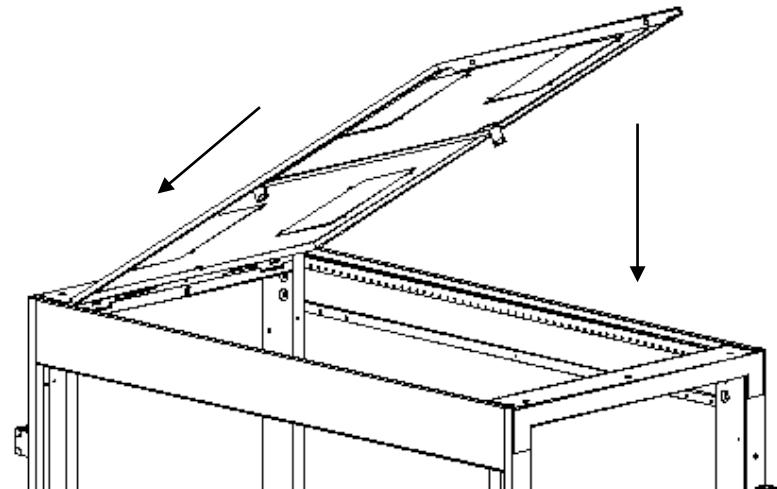

Fig. 1
1. Position Top Panel Assembly over cabinet as shown Fig.1 . Lift rear of Top Panel and slide forward to engage front of cabinet.